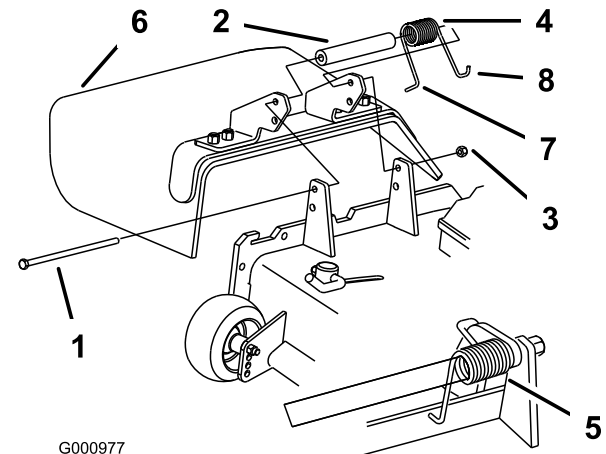

Figure 98
Note: Make sure the **L** end of the spring is installed behind the deck edge before installing the bolt as shown in Figure 98.
3. Install the bolt and nut. Place the **J** hook end of the spring around the grass deflector (Figure 98).
1. Remove the locknut, bolt, spring and spacer holding the deflector to the pivot brackets (Figure 98). Remove the damaged or worn grass deflector.